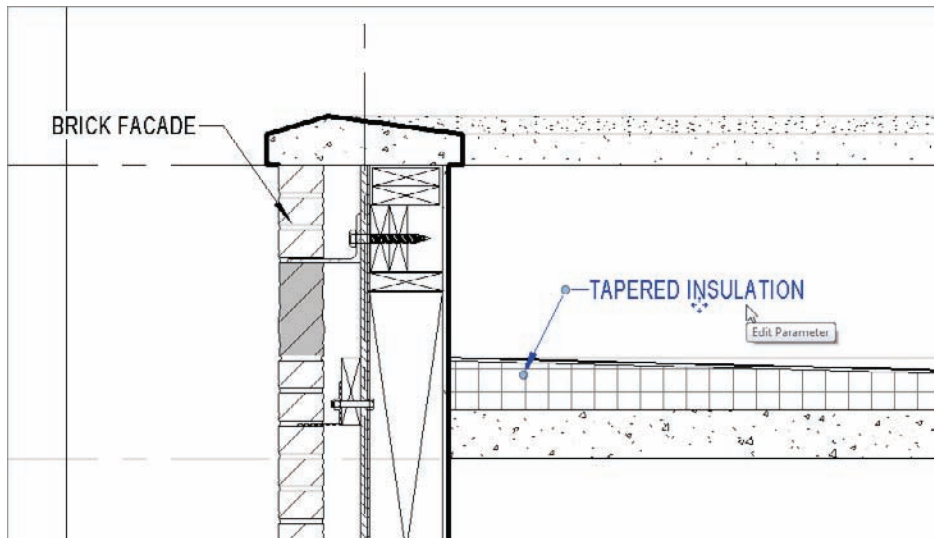

FIGURE 12.56 Add the note TAPERED INSULATION.
3. Click the question mark, and type **TAPERED INSULATION** (see Figure 12.56).